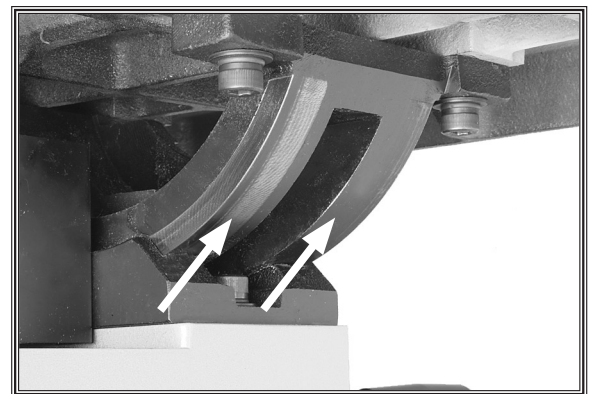

Figure 66. Trunnion lubrication location.
3. Apply a thin coat of light all purpose grease to the outside surfaces of the trunnion (**Figure 66**).